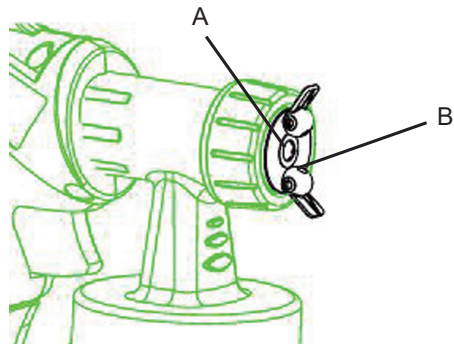

Fig. 2
- In the coating material, build up on the nozzle (A) and the air cap (B) (fig.2) clean both parts with solvent or water.